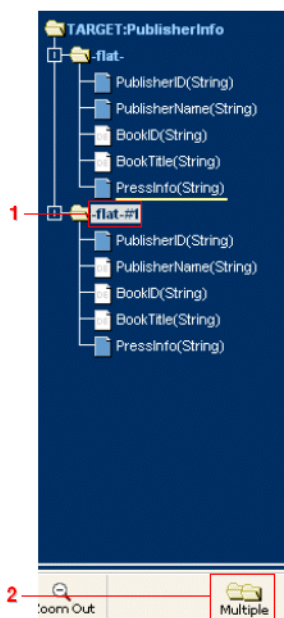

Figure 22-5. Use the **Multiple** button to add a condition to the target's new folder.
- 2 Click the **Multiple** button (see Figure 22-5 below).